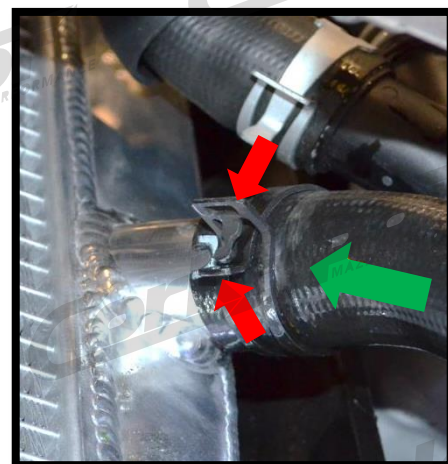

Figure 2h
- i) **Connect the passenger side lower radiator hose**. Remove the rubber shipping cap. Squeeze the clamp together and push the hose onto the radiator (**Figure 2h**).
i) Connect the passenger side lower radiator hose. Remove the rubber shipping cap. Squeeze the clamp together (red arrows) with a pair of pliers and push the hose (green arrow) onto the radiator (Figure 2h).